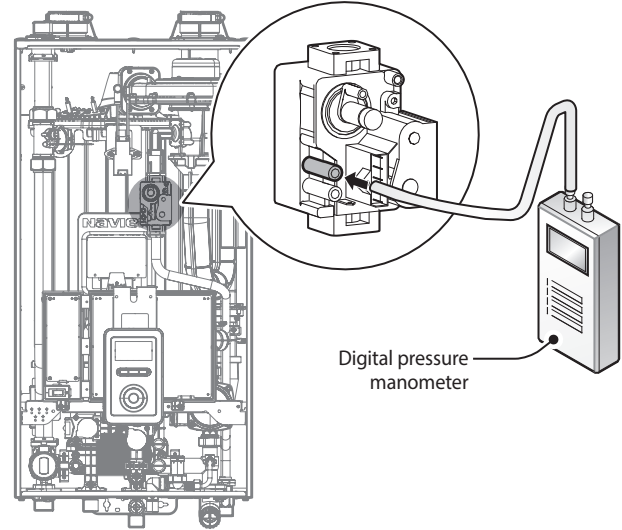

Figure 8. Connect Digital Pressure Monometer
- a. Open the offset pressure port by loosening the screw two turns as shown in Figure 8.